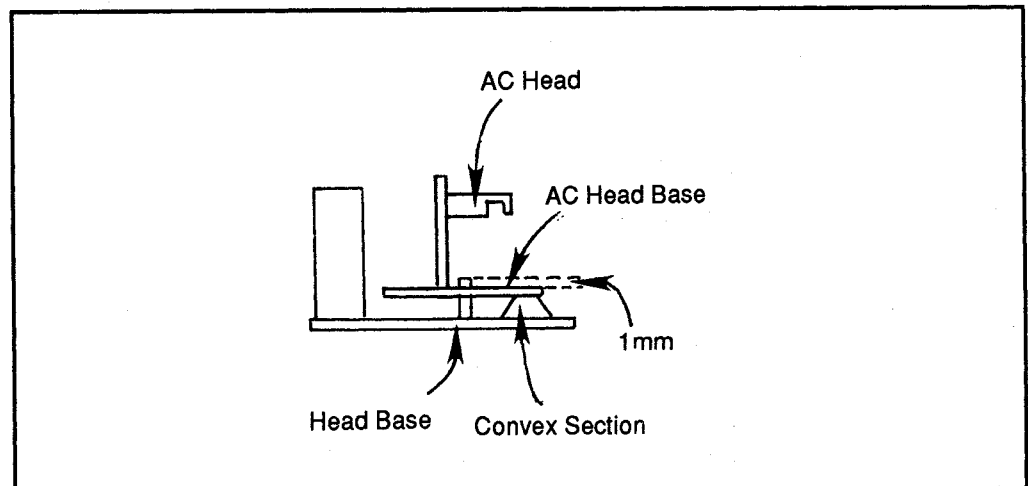

Figure 47: Audio/Control head
The Audio/Control (AC) head assembly is shown in Figure 47. Begin by removing the wiring guide. Remove the head base fixing nut and washer. Remove the AC head assembly.